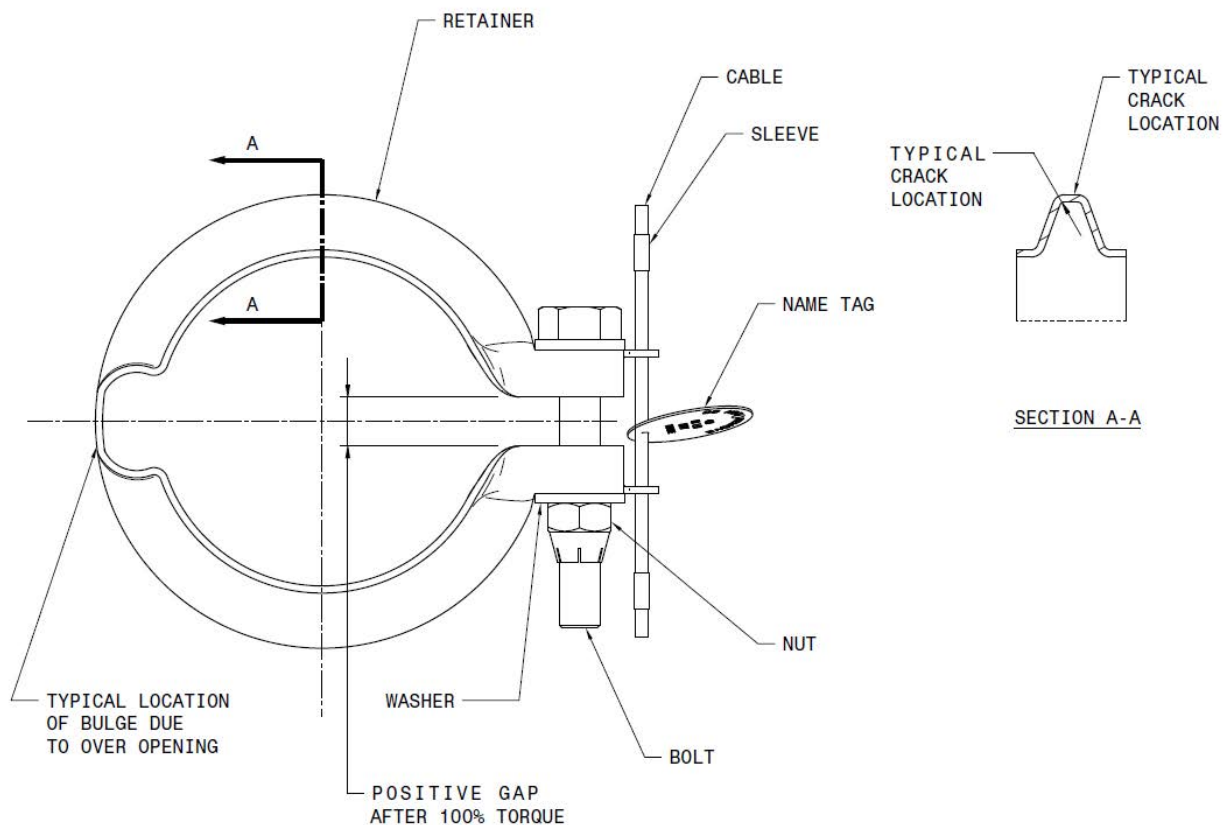

Figure 16
- f. Crack in the clamp V-band exterior or interior surface along the V-apex, around the perimeter. Refer to Figures 16, 26 & 27.